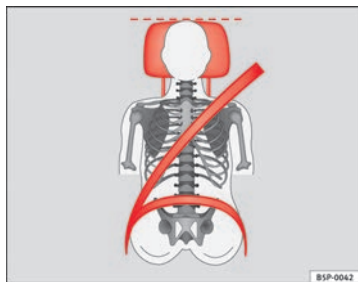

Fig. 12 Correct seat belt and head restraint positions, viewed from front
- The shoulder part of the seat belt must lie on the centre of the shoulder, never across the neck. The seat belt must lie flat and snugly on the torso ⇒ fig. 12.